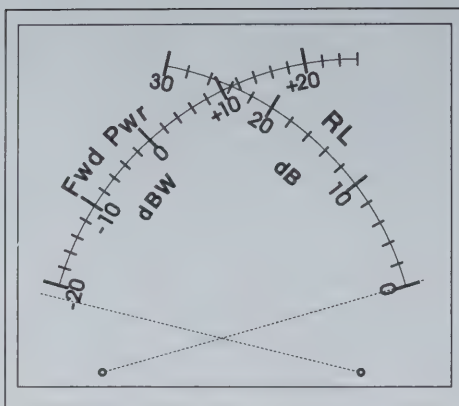

Figure 11—Dual meter movement scales, shown in the power off position.
The MFJ-948 antenna tuner uses a single meter enclosure with dual movements. A compatible overlay for the face of this meter is shown in Figure 11 and can be used as a basis for other meters.
1. With power off, adjust the meter needle resting points as shown in Figure 11.